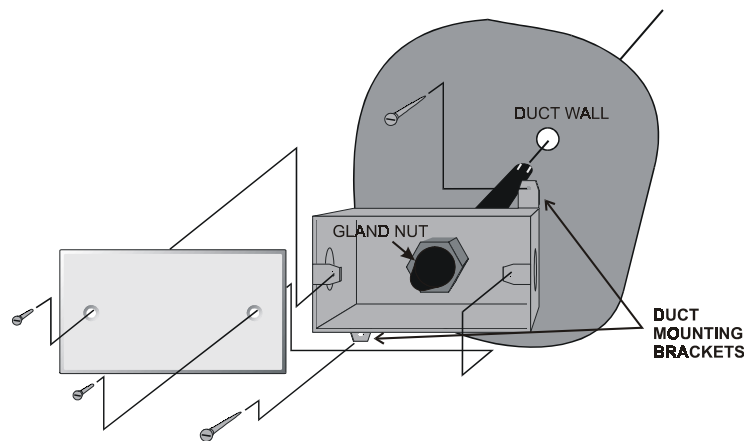

Figure 1 - Humidity Sensor - Exploded View
2. Bolt the sensor enclosure against the outside of the duct wall so that the sensor element fits through the hole and into the duct. The enclosure may be mounted horizontally (as shown in *Figure 1*) or vertically. The screws should be tight enough for the foam gasket around the bottom of the sensor to form an airtight seal between the hole in the duct wall and the outside air.
Once the duct sensor is mounted and the sensor and board wiring is complete, check the gland nut that secures the sensor tube and tighten it if necessary (see *Figure 1* for the location of the gland nut). Attach the cover plate (with the foam gasket included) to the sensor enclosure using the screws provided. Tighten all conduit connections, and cap all unused holes in the sensor enclosure.